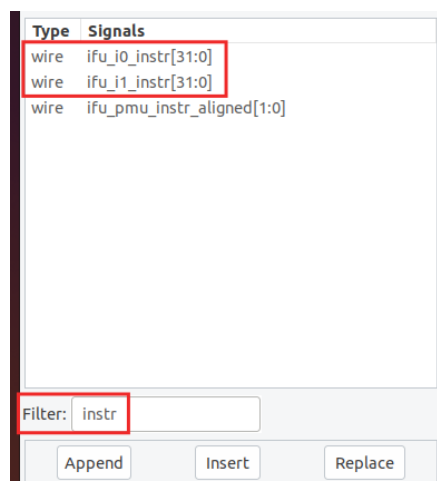

Figure 86. Add signals *ifu_i0_instr[31:0]* and *ifu_i1_instr[31:0]* to the timing waveform
10. Now add the signals that show the instructions that execute in each way of the two-way superscalar RISC-V core. In the same module (*ifu*) look for signals *ifu_i0_instr[31:0]* and *ifu_i1_instr[31:0]* (Figure 86), and drag them into the black Waves pane. The prefix *ifu* indicates the instruction fetch unit, *i0* indicates superscalar way 0 and *i1* indicates superscalar way 1; *instr[31:0]* indicates the 32-bit instruction.